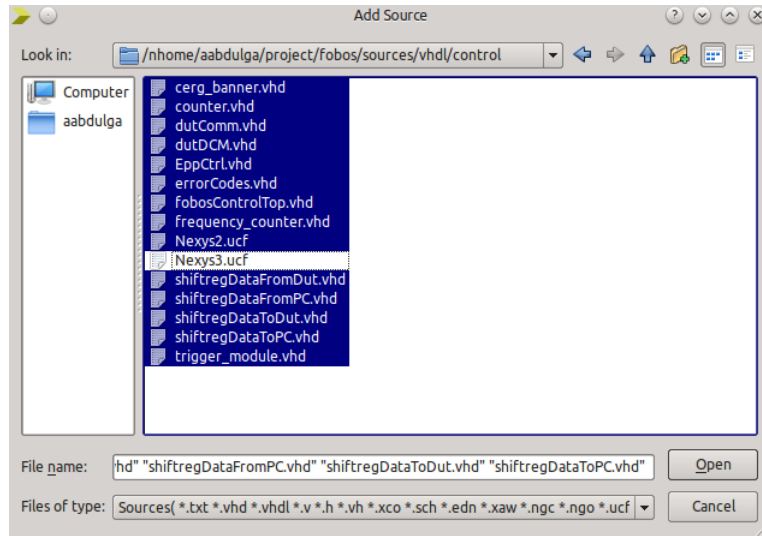

Figure 2.2: Adding Source Files to FOBOS Controller
3. Repeat the previous process to add all vhdl files from `$fobos/sources/vhdl/control`. Also, add the appropriate UCF file depending on the Control Board used (See Fig 2.2) .